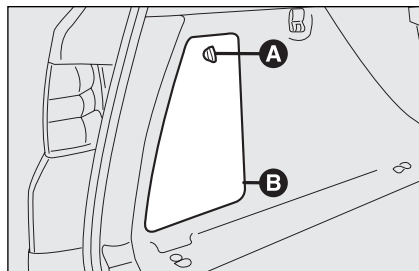

fig. 63
- turn the knob **A**-fig. 63 and open the lid **B**;